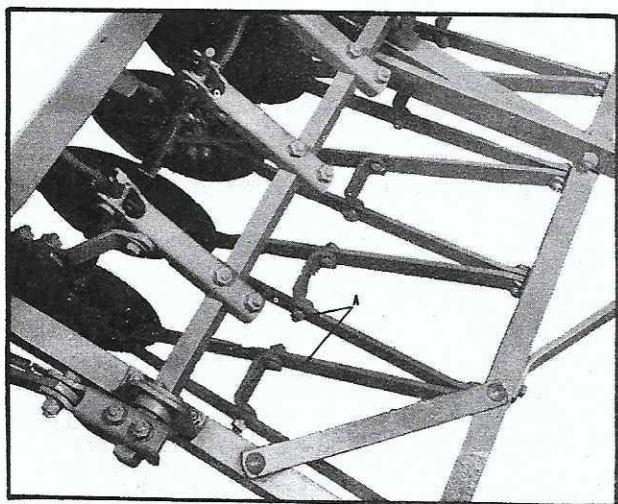

Fig. 9B
6. Block under hitch and hang furrow openers, A, to frame assembly, Fig. 9B. This implement is designed to use seven (7) right and six (6) left furrow openers.